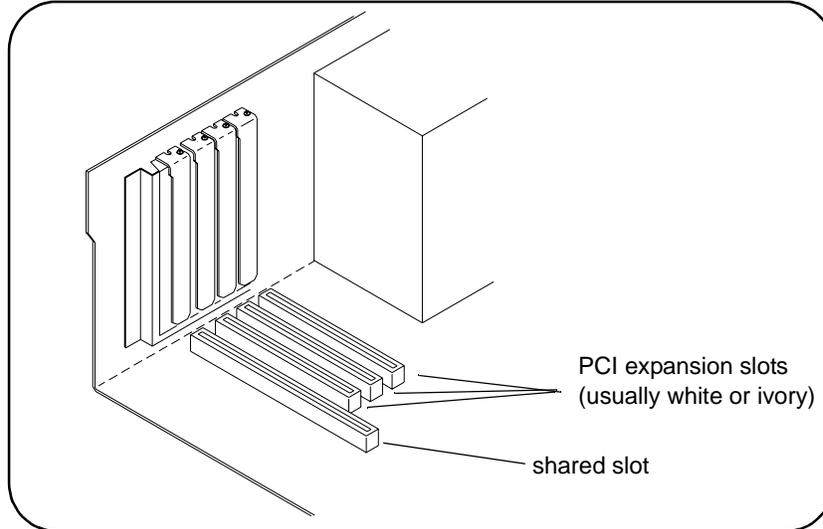

Figure 2-2. Locating a PCI bus Expansion Slot.
2. Locate an unused, unobstructed PCI bus expansion slot (Figure 2-2) that supports bus mastering. (PCI bus slots are usually white or ivory.) See your computer documentation to determine if the PCI slot supports bus mastering.